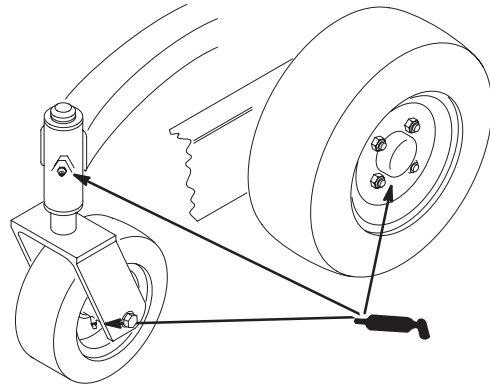

Figure 31
1. Lubricate the front wheel bearings and front spindles until grease begins to ooze out of the bearings (Fig. 31).
4. Remove rear wheel grease cap. Lubricate the rear wheel bearing (Fig. 31).